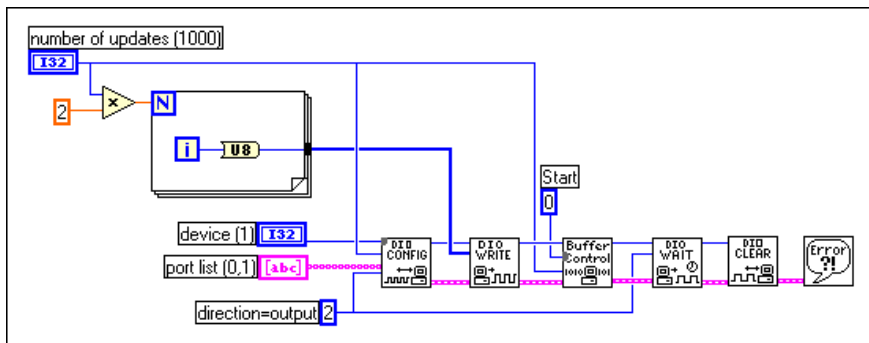

Figure 17-6. Buffered Output Using DAQ Devices (Other Than DIO-32 Series Devices)
For DAQ devices other than the DIO-32 devices, you can use a VI similar to the one above to output digital data. The main difference is that **handshake source** must be external (2). Alternatively, you can use an Advanced Digital VI, DIO Buffer Control, instead of the DIO Start VI, as shown in Figure 17-6. The DIO Start VI contains Digital Clock Config and Digital Mode Config VIs that are useful with DIO-32 devices. You do not need to use the **handshake source** and **clock frequency** inputs, because the handshaking signal source is always external.